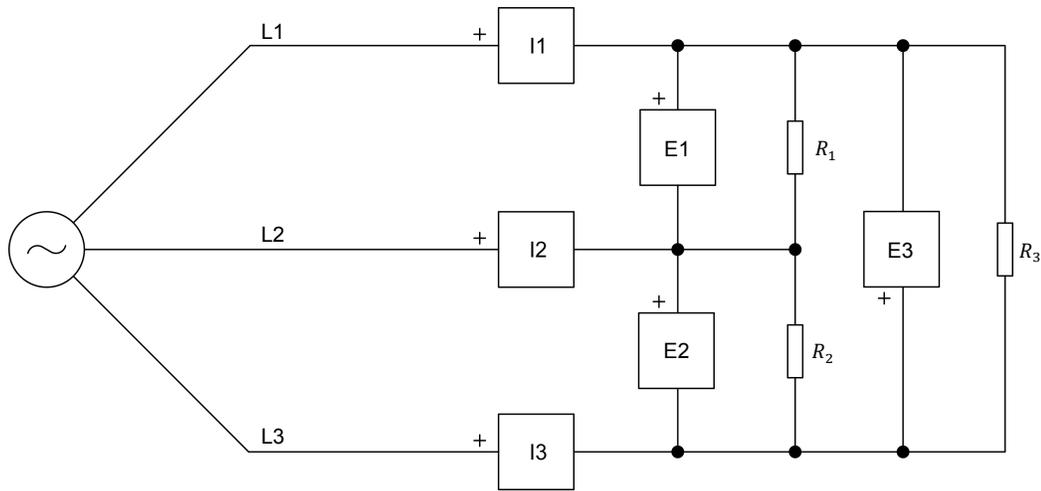

Figure 8. Line current measurements in the delta-connected, three-phase circuit.
41. Reconnect current inputs $I1$, $I2$, and $I3$ of the DACI as shown in Figure 8 to measure the line currents in the delta-connected, three-phase circuit.